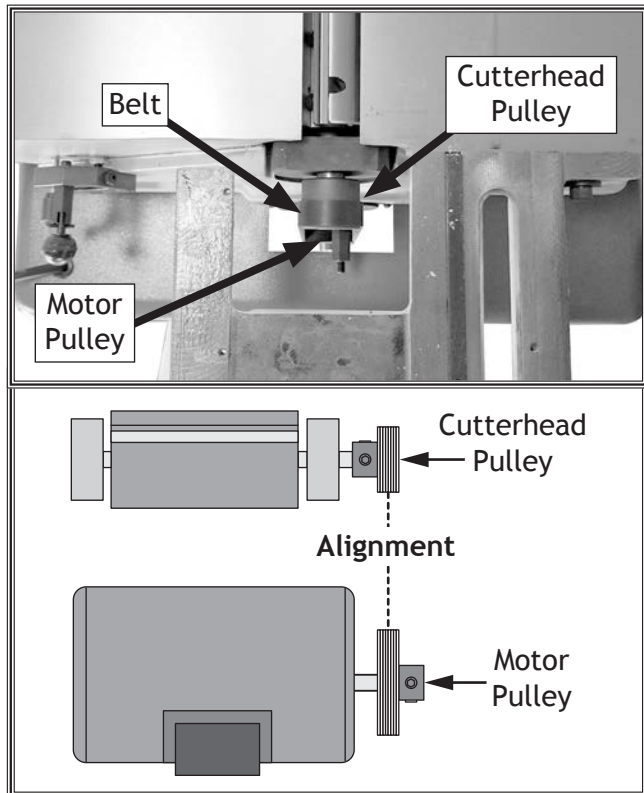

Figure 9. Checking pulley alignment (fence removed for clarity).
16. Loosen fence lock lever and adjust fence as needed, then look down length of belt and pulley faces to check pulley alignment (see **Figure 9**). If available, use a narrow straightedge against pulley faces to check alignment.